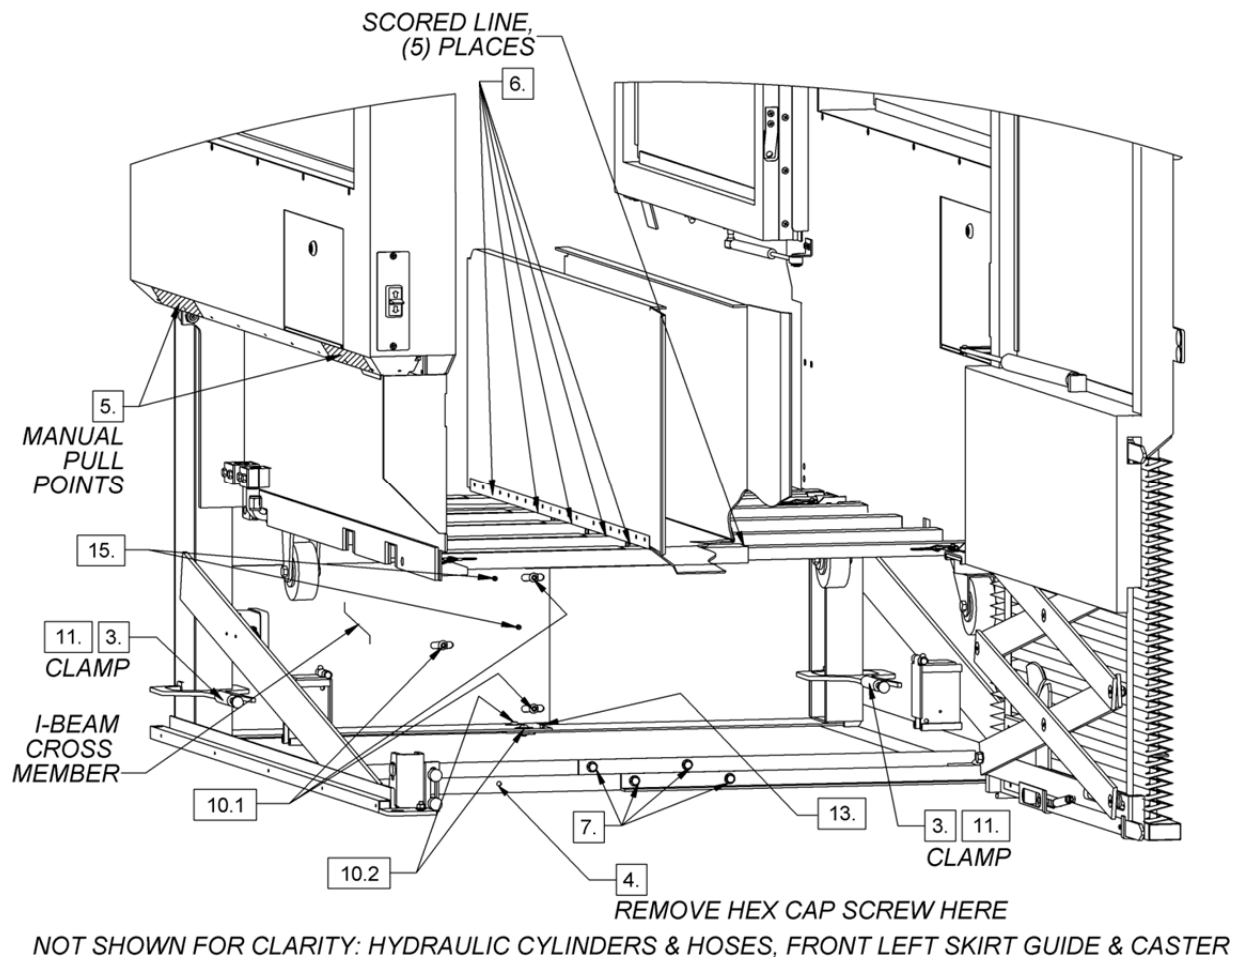
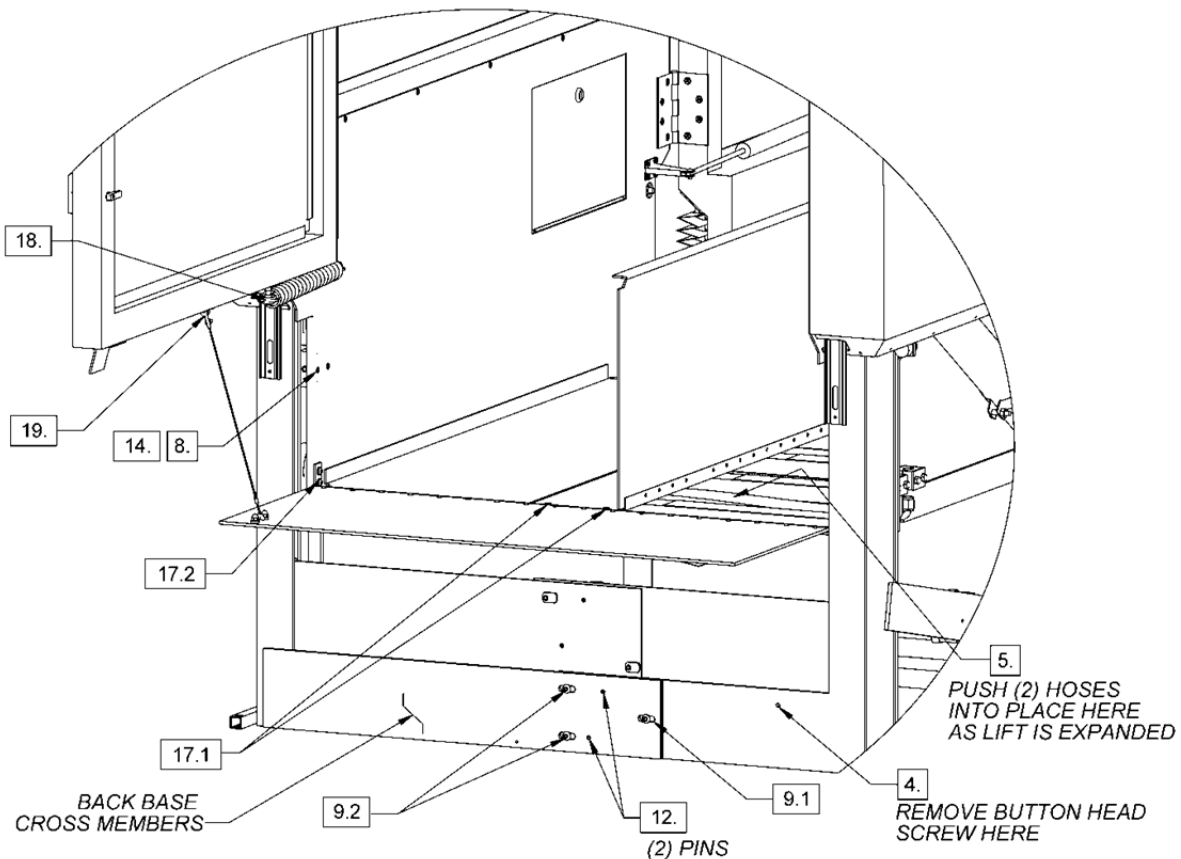

Figure 5.3 (Lower Landing Gate View)
Figure 5.4 (Upper Landing Gate View)
- 3.** (Refer to Figure 5.3, next page) Install two (2) welding clamps or C-clamps in the locations shown.
- 4.** (Refer to Figures 5.3 & 5.4, page 50) Remove the button head cap screw from the back cross members, and the hex cap screw and nut from the front cross members.
As the sides of the lift car are spread apart in Step 5 below, push the two flexible hydraulic hoses into their normal position. See Figure 5.4. Failure to do so could result in damage to the hydraulic hoses.
- 5.** Spread the lift car apart to its normal width. Spread the lift manually by gripping at the locations shown in Figure 5.3. Or, if necessary, use the strap and spreader tube as shown in Figure 5.5 on page 51. The paint on the upper surfaces of the small floor members is scored where the edges of the large floor members should be located when the lift car is spread to the correct width.
6. (Refer to Figure 5.3) Tighten the ten (10) 3/8-16 x 3/4" hex cap screws which fasten the floor members together. Take special care to align the scored lines on the top of the smaller lift car floor members with the edges of the larger lift car floor members before tightening these screws.
7. (Refer to Figure 5.3) Use two (2) 7/16" wrenches to reinstall the four (4) 1/4-20 x 1 hex cap screws, four (4) 1/4-20 nuts, and eight (8) washers into the front base supports. Leave these screws and nuts very loose for now. The screws should be installed so that the screw heads are toward the front of the lift and the lock washers are under the nuts.
8. (Refer to Figure 5.4) Use a 3/16" hex key to turn the four (4) adjustment screws (two (2) on each side) at the back of the lift car exactly three (3) full rotations counterclockwise.
9. (Refer to Figure 5.4) Thread the following fasteners into the back base cross members in the locations shown:
10. (Refer to Figure 5.3) Thread the following fasteners into the back I-beam cross members in the locations shown:
11. (Refer to Figure 5.3) Remove the two (2) clamps installed in Step 3.
12. (Refer to Figure 5.4) Install two (2) spring pins into the back base cross members.
13. (Refer to Figure 5.3) Install one (1) spring pin into the horizontal I-beam cross members. You may need to use a hammer or pry bar to align the holes in the cross members (refer to Figure 5.5).
14. (Refer to Figure 5.4) Use a 3/16" hex key to turn the four (4) adjustment screws (two (2) on each side) at the back of the lift car exactly three (3) full rotations clockwise.
15. (Refer to Figure 5.3) Remove the two (2) spring pins from the lift car caster brackets (on the right side of the lift car) and install them into the vertical I-Beam cross members. You may need to use a hammer or pry bar to align the holes in the cross members.
16. Tighten the five (5) button head screws (from Step 10) in the I-beam cross members.
17. (Refer to Figure 5.4) Reattach the dock plate to the lift car by installing the following fasteners:
- 17.2 Four (4) 1/4-20 x 1/2 button head screws with lock washers that secure the dock plate hinge bracket to the lift car sides, two (2) on each side. (Use a 5/32" hex key.)
18. (Refer to Figure 5.4) Reconnect the gate closer spring to the upper landing gate and then reinstall the e-clip to keep it and the hydraulic damper in place.
19. (Refer to Figure 5.4) Reconnect the dock plate tether to the upper landing gate using the footman's loop and two (2) #10 x 3/4 flat head screws.